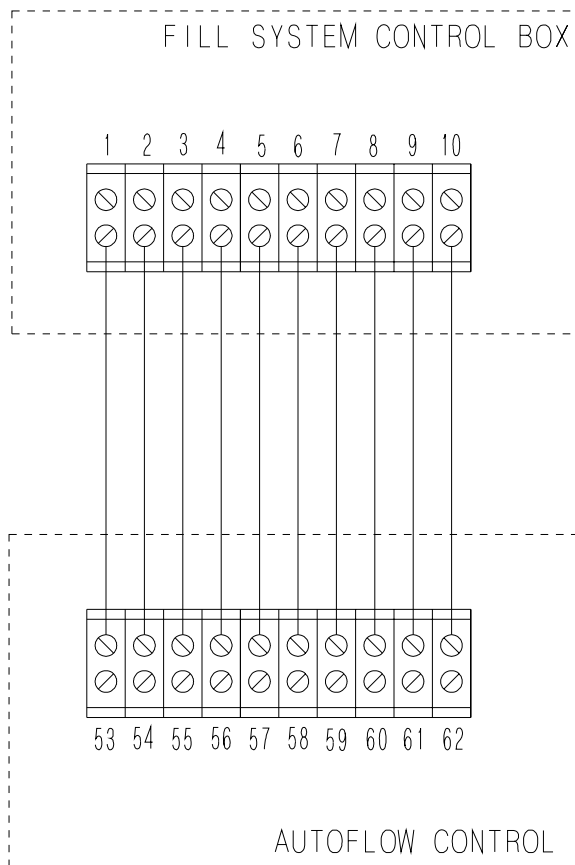

Figure 10.
2. Make wire connections as shown in Figure 10.